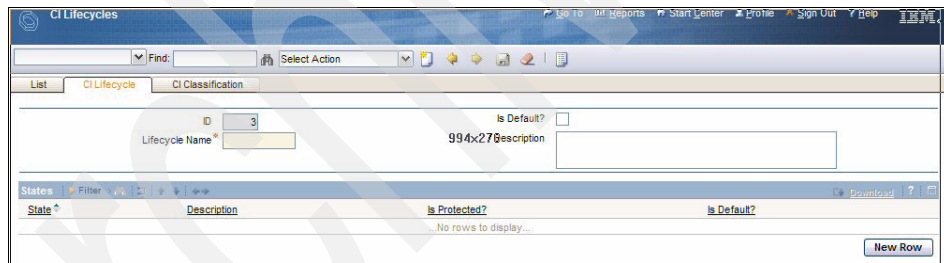

Figure 8-84 New CI Lifecycle
3. Type the name of the new life cycle you want to create in the Lifecycle Name field. If you want this life cycle to function as the default life cycle, select the **Default** check box (Figure 8-84). Optionally, add a description of the life cycle to the Description field.